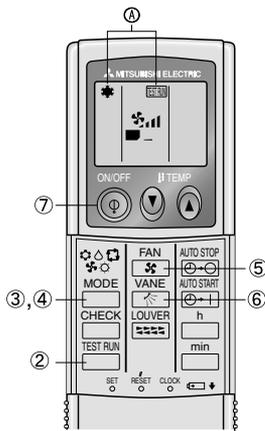

Fig. 7-2
7.2.2. Using wireless remote controller (Fig. 7-2)
- ① Turn on the power to the unit at least 12 hours before the test run.
- ② Press the button twice continuously. (Start this operation from the status of remote controller display turned off.)
- (A) and current operation mode are displayed.
- ③ Press the button to activate COOL mode, then check whether cool air is blown out from the unit.
- ④ Press the button to activate HEAT mode, then check whether warm air is blown out from the unit.
- ⑤ Press the button and check whether fan speed changes.
- ⑥ Press the button and check whether the auto vane operates properly.
- ⑦ Press the ON/OFF button to stop the test run.